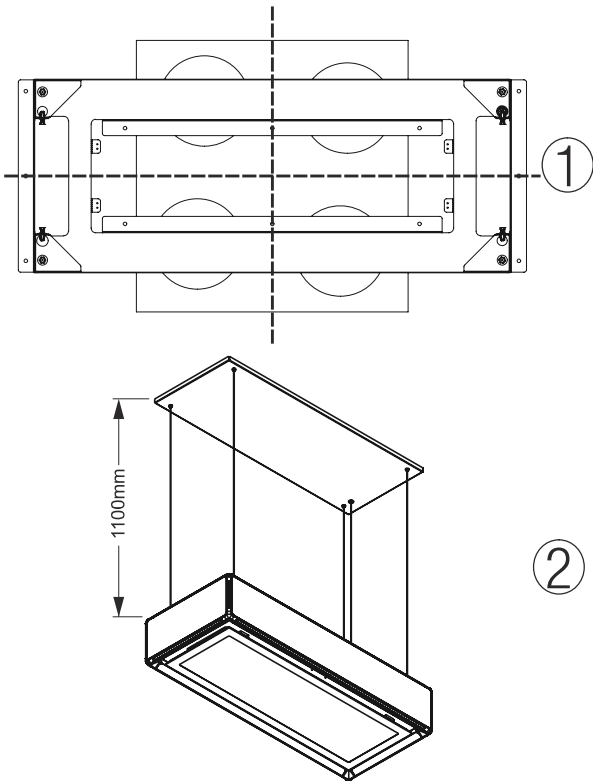

Fig. 20
1. The ceiling hanger sheet should be placed to center the cooker. When you attach the installation template to the surface, make sure it centers the cooker (Fig. 20/ 1).
The distance between the ceiling and the hood is 1100mm while the device is at the most bottom position (Fig. 20).